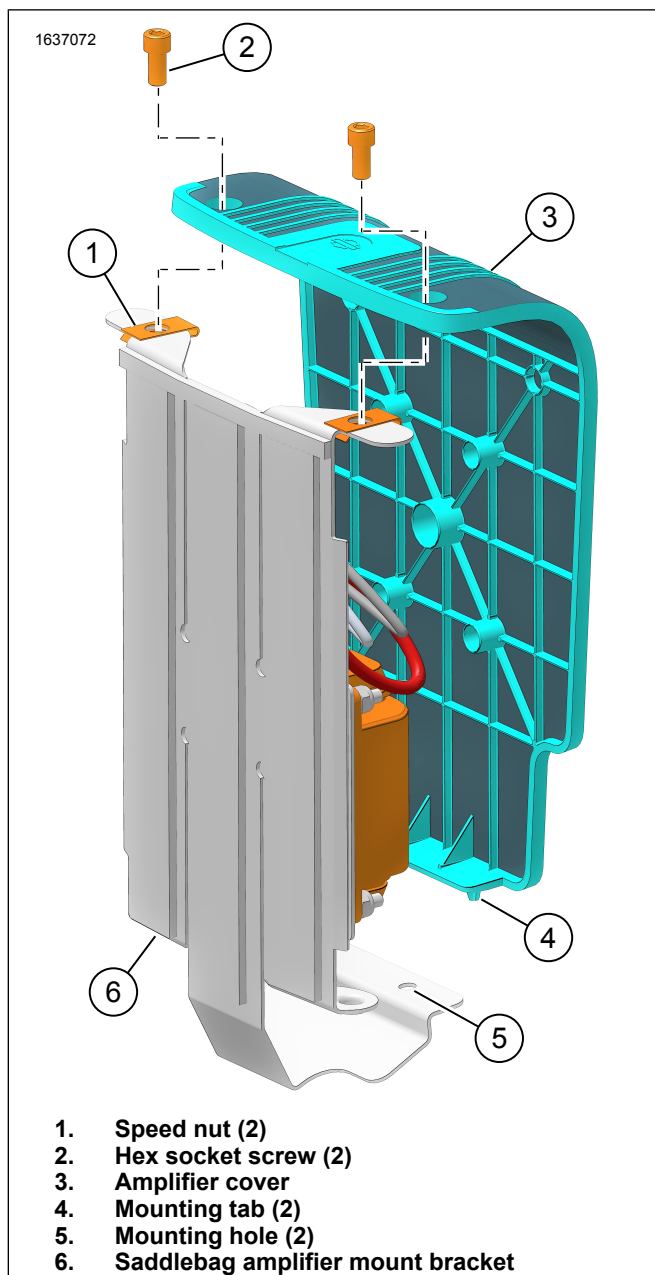

Figure 14. Amplifier Cover
17. See Figure 14. Install amplifier cover (3).
18. install screws (2). Tighten.